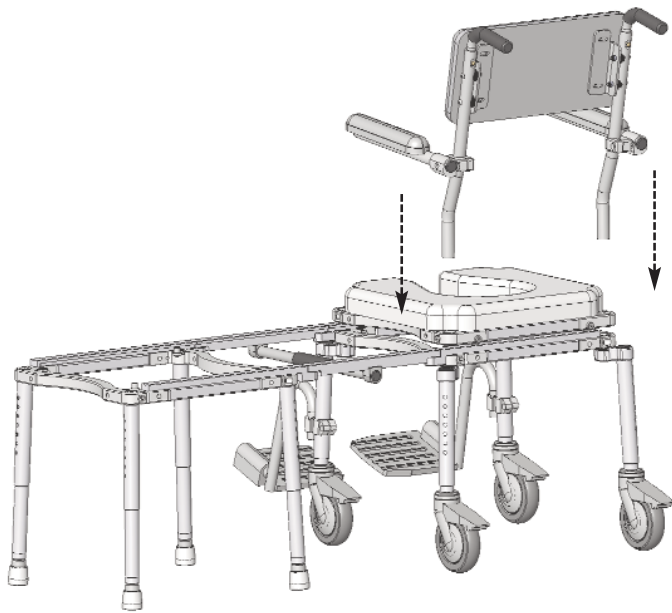
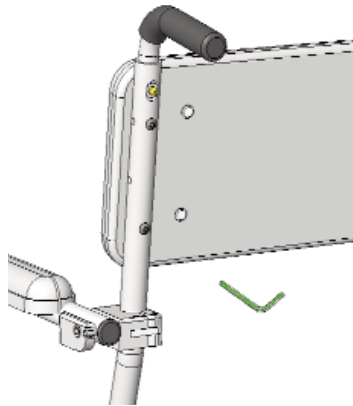

Figure 4
Figure 6
**F** Turn the chair right side up and install the backrest assembly. Slide the two backposts into the back of the seat frame and tighten the two socket head cap screws using the 1/4" Allen wrench (Refer to Figures 4 & 5). Also tighten the four button head capscrews that attach the back cushion to the back posts using the 5/32" Allen wrench (Refer to Figure 6).